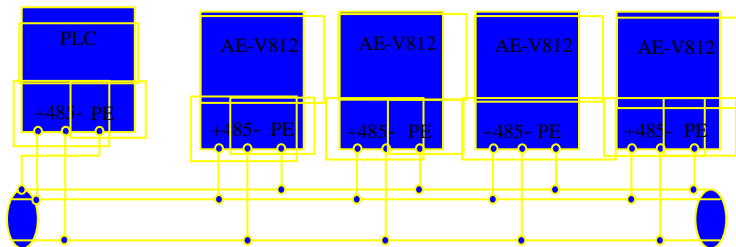
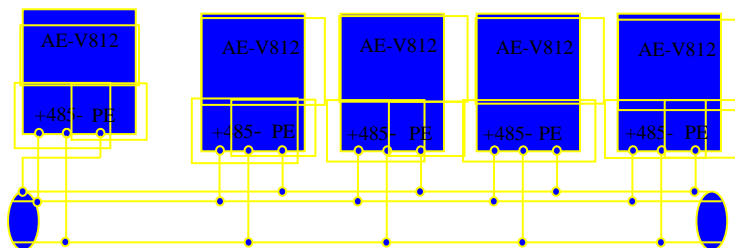

Fig. 3-12 PLC communication with multi inverters
Fig. 3-13 Multi inverters communication
- (3) Multi inverters can be connected together via RS485, controlled by PC/PLC as a host shown as Fig.3-12. It also can be controlled by one of inverters as a host shown as Fig.3-13.